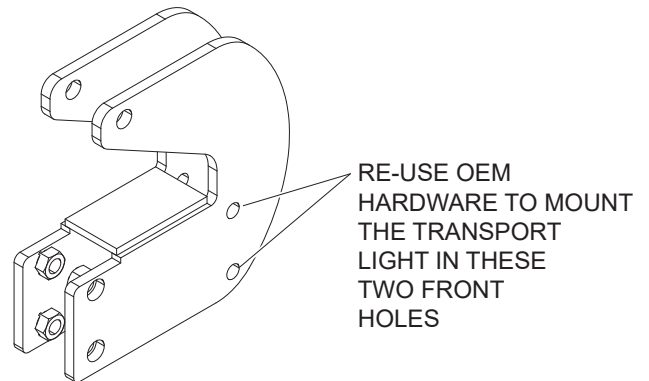

Figure 31: Cylinder mount
12. Re-use OEM hardware to reinstall transport light using front holes on cylinder mount. (Figure 31)